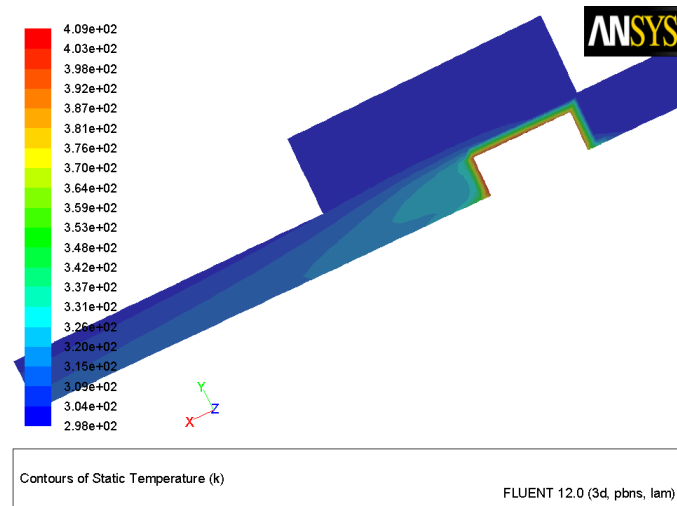

Figure 24.7: Filled Contours of Temperature on the Clipped Surface
2. Display filled contours of temperature for the clipped surface (Figure 24.7).
- Orient the view to obtain the display as shown in Figure 24.7.